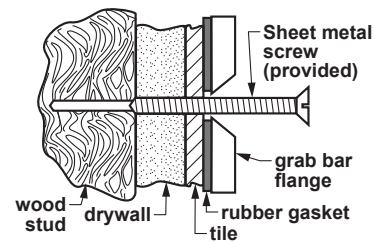

Figure 3:
- a. **Sheet metal screw mount (into wood stud) on tile wall:** See figure 3. Drill 1/4" diameter hole *only* through tile with masonry bit, then drill 1/8" diameter approximately 1 3/4" deep through drywall and into wood stud.
- b. **Sheet metal screw mount (into wood stud) on untiled wall:** See figure 3. Drill 1/8" diameter approximately 1 3/4" deep through outer wall, drywall, and into wood stud.
2. Attach grab bar and rubber gaskets to wall using appropriate mounting hardware as indicated in Figures 3 and 4. Install first one flange, then the other. Do not tighten completely until both flanges are installed. If installing toggle bolts, install them before sheet metal screws.